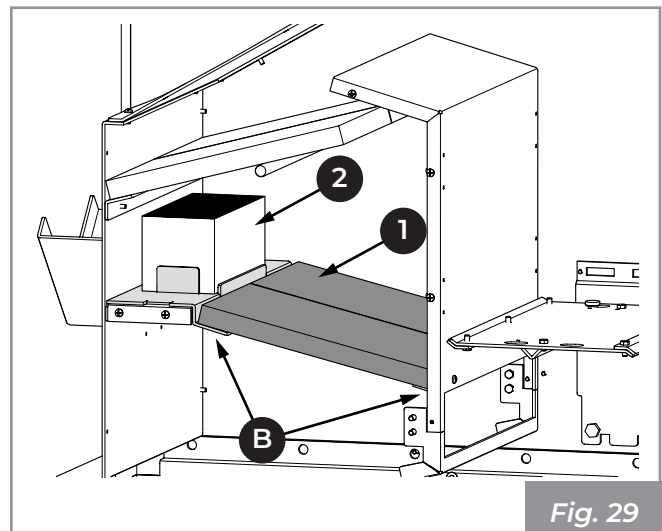

Fig. 29
- 3) Position the O-RING (2) by inserting it into the appropriate support.
- 4) Position the panels (1) resting them on the appropriate supports (B) (Fig. 29).